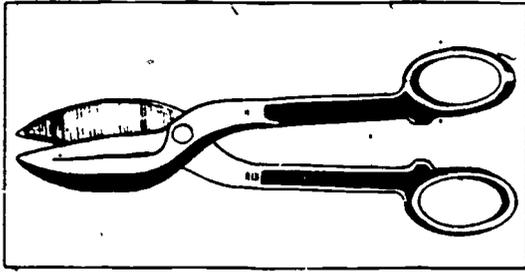

Figure 3-8 Cutting shears
*Shears.* Shears, or tin snips as they are sometimes called, are illustrated in figure 3-8, they are useful in cutting lightweight sheet metal, gasket stock, and other materials that are easily cut by shearing action. They should never be used to cut wire or rod stock, because this use will probably damage the cutting edge of the blade. Ordinary shears are usually issued in 6- and 12-